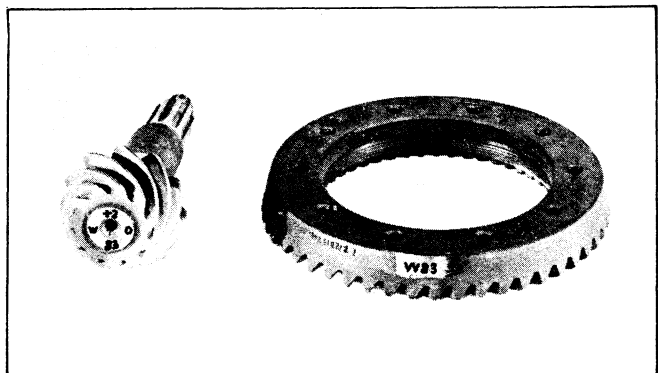

Figure 2-15. Drive Pinion and Drive Gear
11. Note figures etched on drive pinion (22) end. See Figure 2-15. Four sets of figures are etched on drive pinion. One figure is found on both the drive pinion and the drive gear and identifies a matched set. Directly opposite this figure will be one with a (+) or (-) before it, or, if not a (+) or (-), the figure will be 0. This number must be positively identified before continuing with the assembly procedure. Midway between the two sets of figures described above are numbers and letters etched for manufacturing purposes only, but as one of these numbers may be (0) and might be confused with the number needed for assembly procedure, a rule to follow would be to first examine the shaft end for a (+) or (-) number, and only if a (+) or (-) number is not etched on the shaft, will the number be (0).